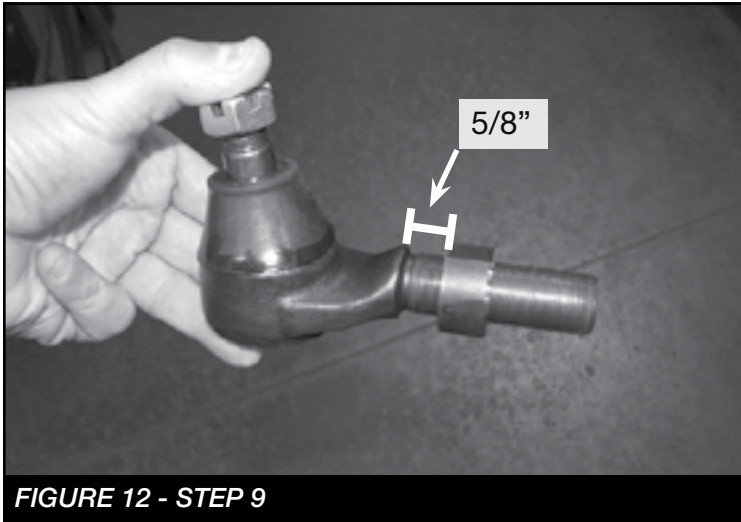

FIGURE 12 - STEP 9
9. Install FT50658 (7/8-18 Jam Nut) on the FT50705 (Tie Rod End). **NOTE: When installing leave 5/8" space between the jam nut and the end of the thread on the rod end. This is a starting point, final adjustments will be made when alignment is made. SEE FIGURE 12**